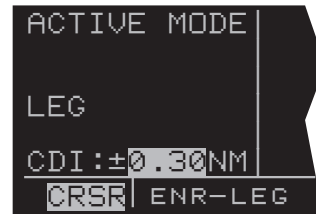

Figure 5-122
3. Rotate the left inner knob to select the desired CDI scale factor (figure 5-122).